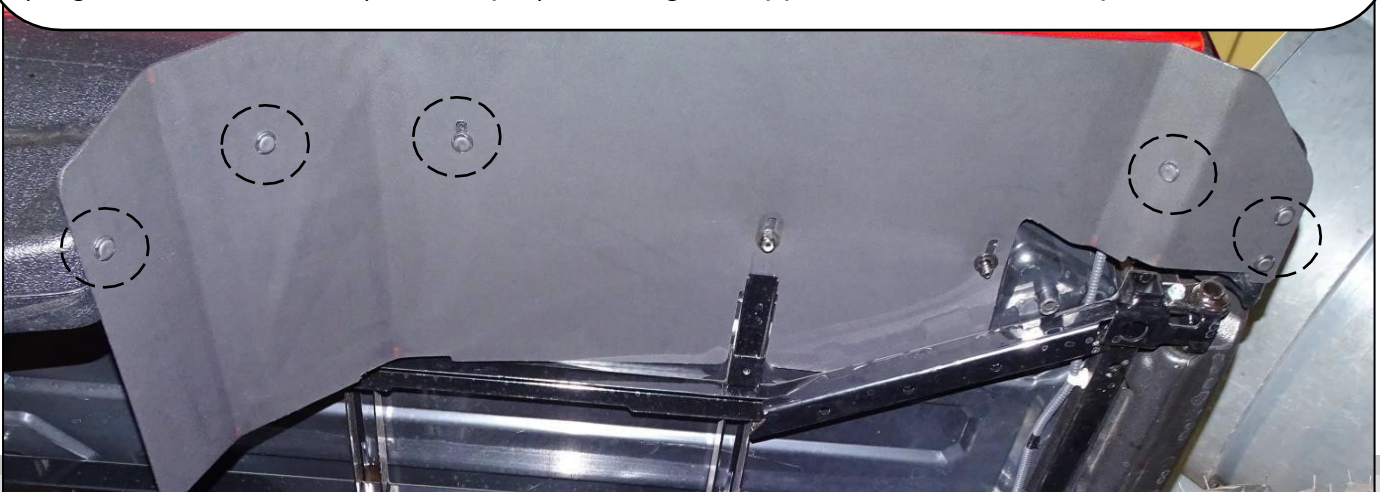

Figure 2
5) Insert (1) 1" bolt with a washer from the top of the dump bed into the holes that you just drilled (**Figure 2**).